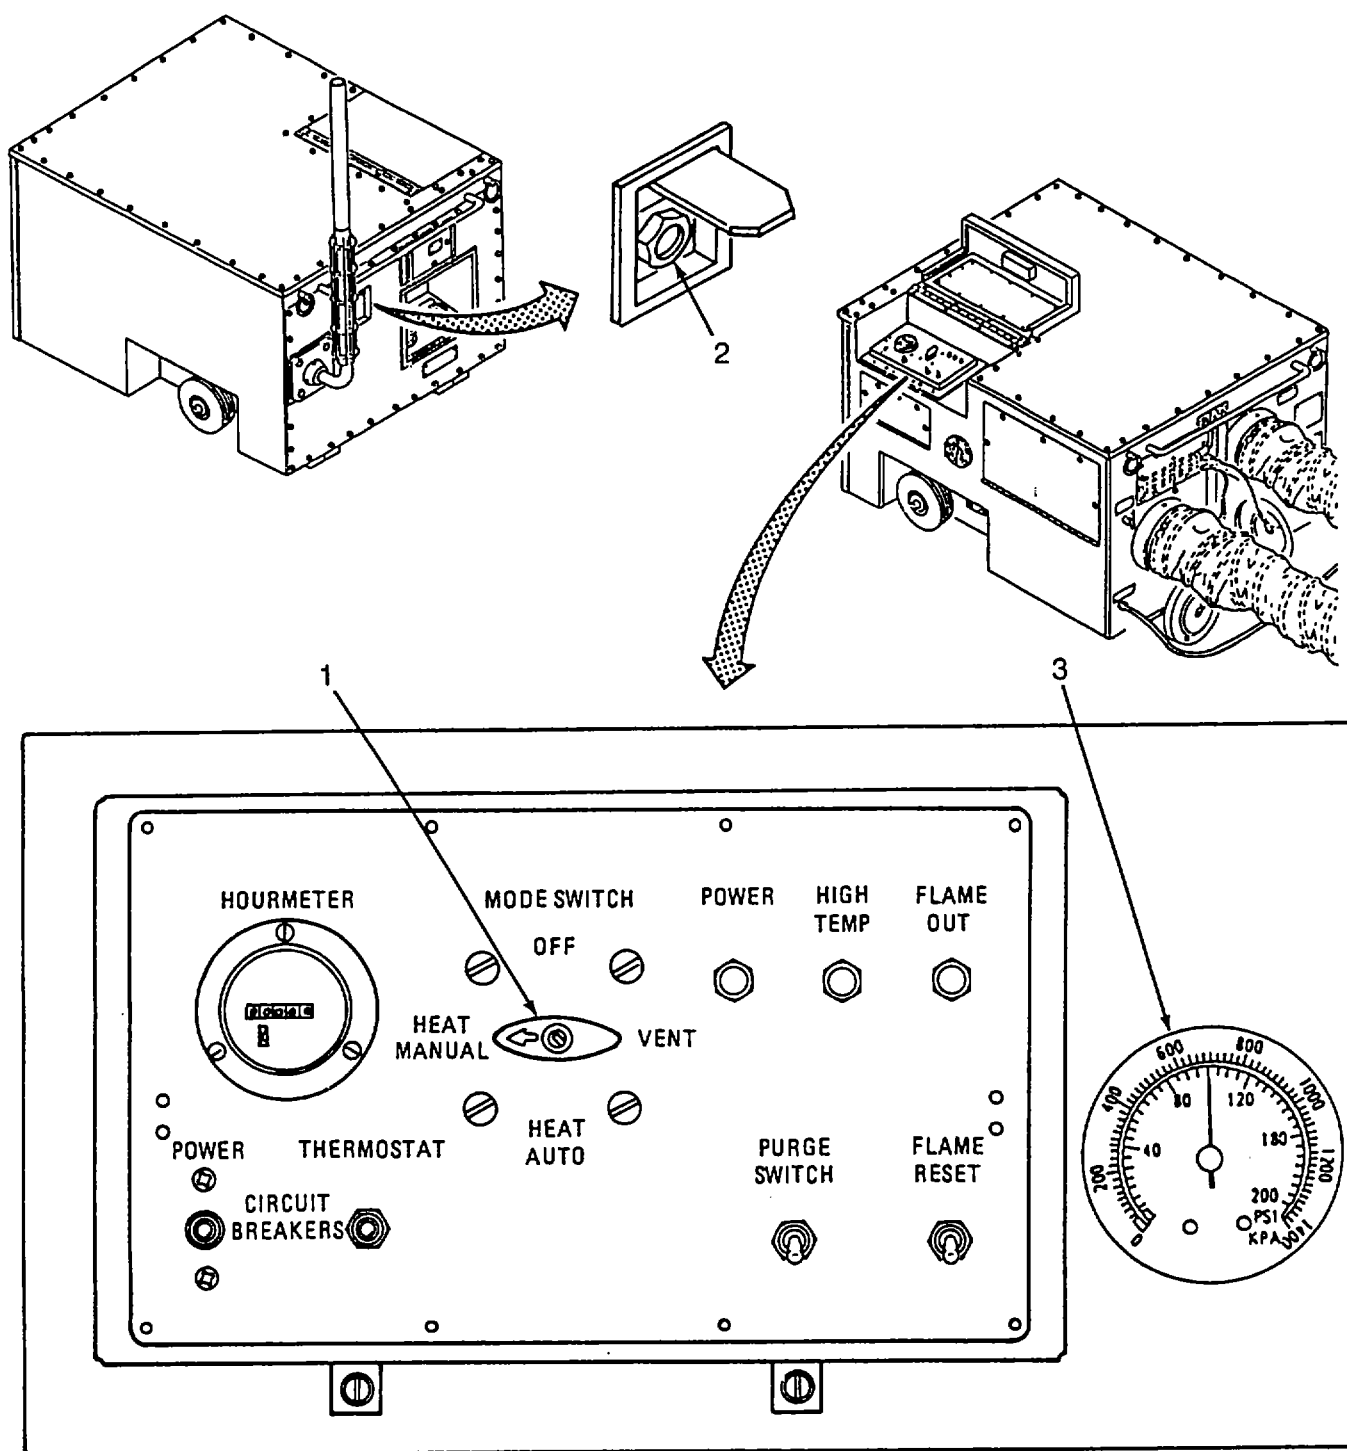

Figure 2-8. Operation, Heat Manual Mode
- c. Heat Manual Mode. The ASH Unit may be placed in the HEAT MANUAL mode by using the MODE SWITCH. (Refer to Figure 2-8)
**If unit is presently operating in the HEAT AUTO mode, proceed to step (4).**
- (1) Perform setup procedures in paragraph 2-7.
- (2) Operate the unit in the VENT mode by following the instructions in paragraph 2-8b.
- (3) Look through the sight glass (2) to check for ignition arc. If ignition arc is not seen, do not attempt to fire heater.